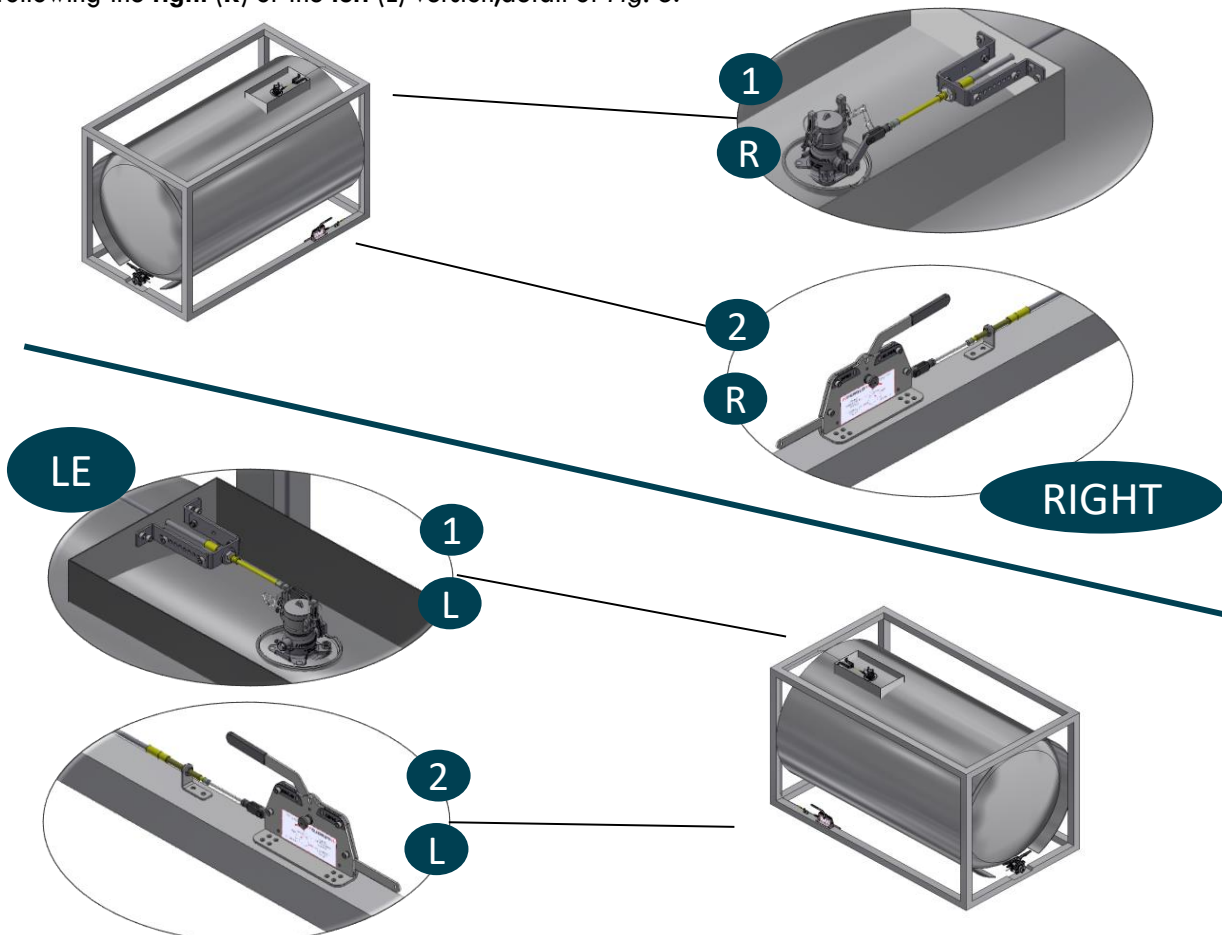

Figure. 3
- the valve area (1)
- the remote control area (2)
following the **right (R)** or the **left (L)** version, detail of Fig. 3.